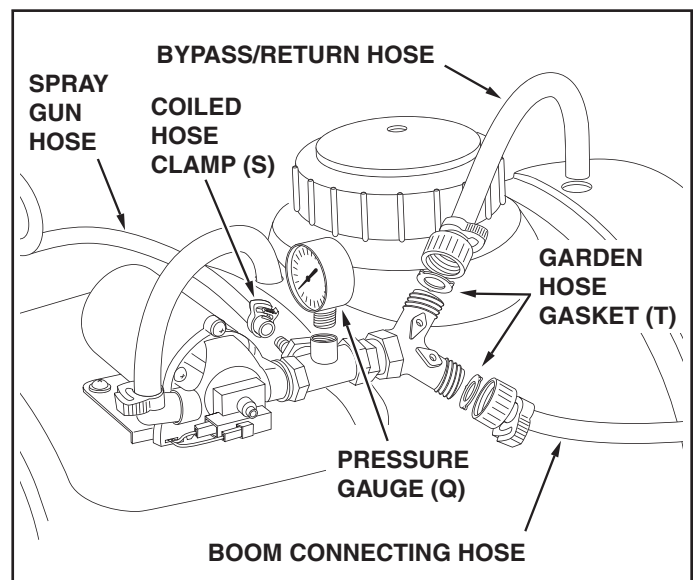

FIGURE 8
STEP 8: (SEE FIGURE 8)
- Insert a garden hose gasket (T) into the swivel nut on the bypass/return hose. Screw the nut onto the upper outlet of the "Y" valve fitting. Place the other end of the hose down through the hole at the rear of the tank.
- Insert a garden hose gasket (T) into the swivel nut on the boom connecting hose. Screw the nut onto the lower outlet of the "Y" valve fitting.
- Slide the coiled hose clamp (S) onto the spray gun hose. Push the hose onto the hose adapter on the side of the "T" fitting as shown in figure 8. Tighten the clamp around the hose and the adapter. Snap the spray gun into the clips on the side of the tank.
- Carefully screw the pressure gauge (Q) into the top of the "T" fitting.